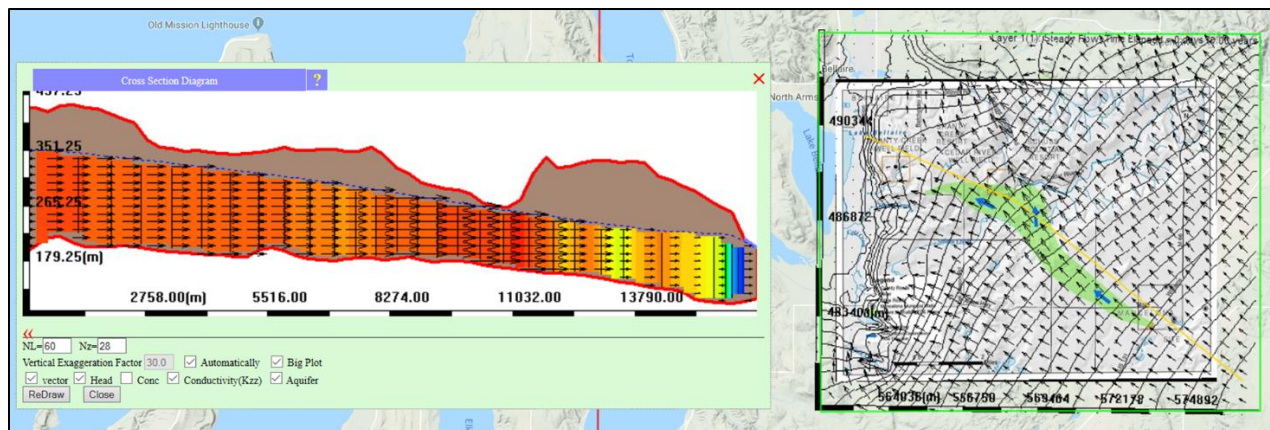

Figure 13. Local model simulated results.
- Submit the job for simulation and view the results. Draw a new cross-section to visualize the flow patterns along the direction of the TCE plume (see Figure 13).